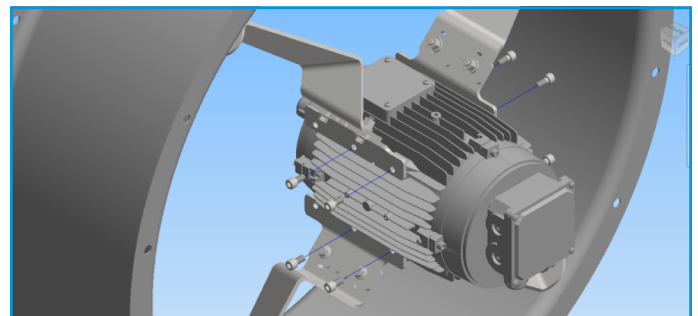

Figure 8. Removal all motor fixings.
4. Remove all motor fixings (either side of the motor) as per figure 8, ease the motor clear of the fan casing then lower onto a suitable pallet for removal.